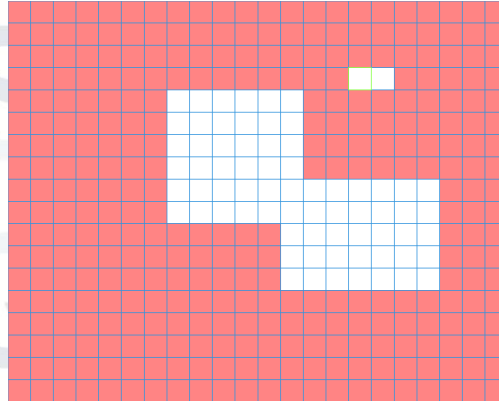

Figure 5-60
- **Region:** Click select button, the interface is shown as in Figure 5-60. Here you can set motion detection zone. There are 396(PAL)/330(NTSC) small zones. The green is the current cursor position. White is the motion detection zone. Red is the disarmed zone. You can click
In Figure 5-60, you can left click mouse and then drag it to set a region for motion detection. Click *Fn* to switch between arm/withdraw motion detection. After setting, click 'Enter' key to exit.